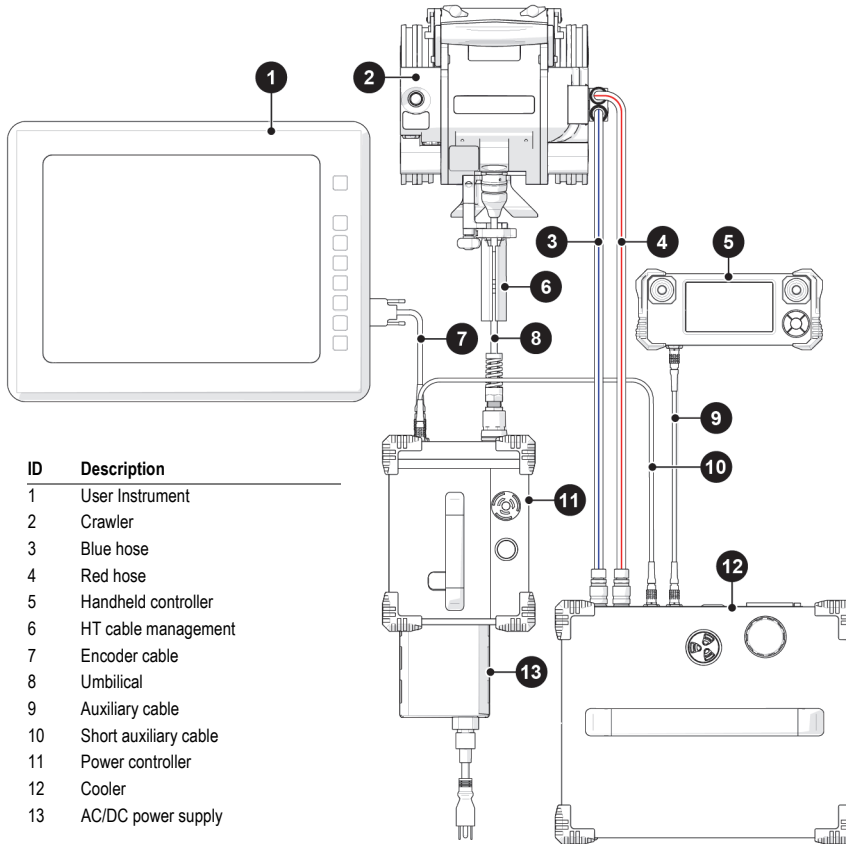

Figure 3-2 HT crawler base configuration
1. Attach the HT cable management (6) to the crawler (2).
2. Connect the power controller (11) to the crawler (2) using the umbilical (8) (see Figure 3-2 on page 132).
3. Connect (5) handheld controller to (12) cooler using the (9) auxiliary cable (see Figure 3-2 on page 132).
4. Connect the (12) cooler to the (11) power controller using the (10) short auxiliary cable.
5. Connect the (3) blue hose to either port on the (2) crawler. Connect the opposite end of the blue hose to the OUT port on the (12) cooler.
6. Connect the (4) red hose to either port on the (2) crawler. Connect the opposite end of the red hose to the OUT port on the (12) cooler.
7. Route the (8) umbilical, (3) blue hose and the (4) red hose through the (6) HT cable management (see “Hose Connection and Routing (HT)” on page 60).
8. Connect (1) your data acquisition instrument to the (11) power controller using the (7) encoder cable.
9. Insert (13) AC/DC power supply into the (11) power controller.